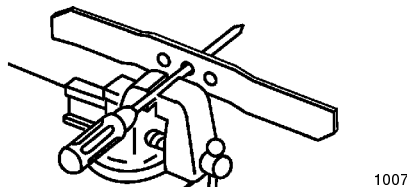

Figure 17
- Check the balance of the blade by placing the center hole of the blade over a nail or a screwdriver shank clamped horizontally in a vise (Fig. 17).